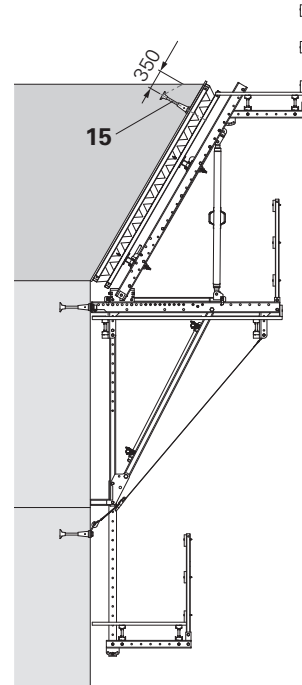

Fig. B6.01
- Anchor position (15) is predetermined through the assumed failure cone with an incline of 1:1.5 and an edge distance of 350 mm.
- Special lifting equipment is required for moving the climbing unit. (Fig. B6.01)